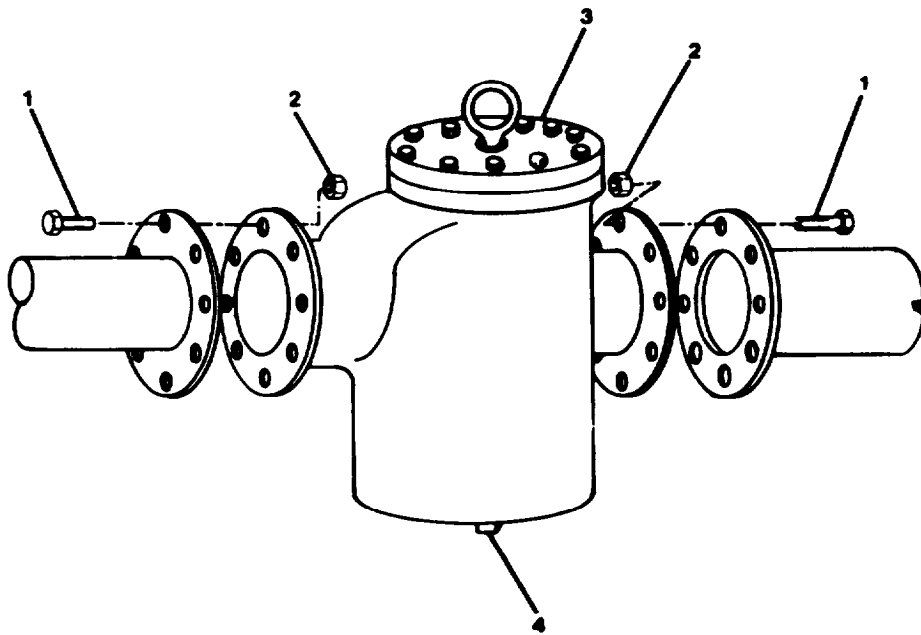

FIGURE 2-240. 8-Inch Simplex Sediment Strainer, Removal.
- a. Place a drip pan under sediment strainer (3, FIGURE 2-240) and remove drain plug (4).
- b. Replace drain plug (4) after draining strainer.
- c. Remove flange nuts (2) and bolts (1).
- a. Install simplex sediment strainer (3, FIGURE 2-240).
- b. Install bolts (1), nuts (2) and torque to 75 ft-lb (102 N•m).